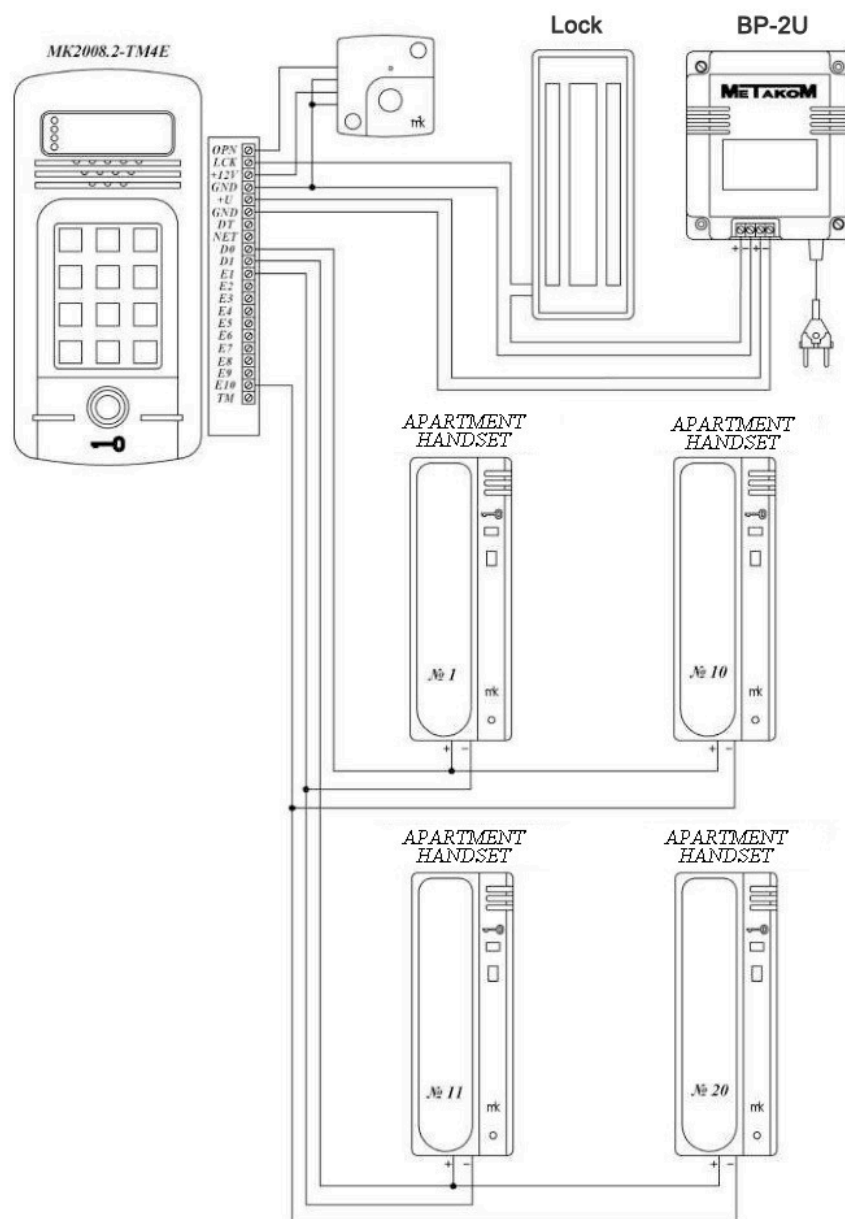

Fig. 2 Example of mounting the outdoor panel MK2008.2-TM4E
13. 5. Install the wiring. Make taps from the loops and connect the TKP of all the subscribers (Fig. 2). When implementing projects for fenced areas with one entrance to the territory, there are two possible connection schemes: using network switches (Fig. 4) and without using network switches (Fig. 3). When implementing projects with multiple entrances to the territory, it is necessary to use network switches (Fig. 4). To switch video signal in projects for fenced areas, it is necessary to use network video switches.